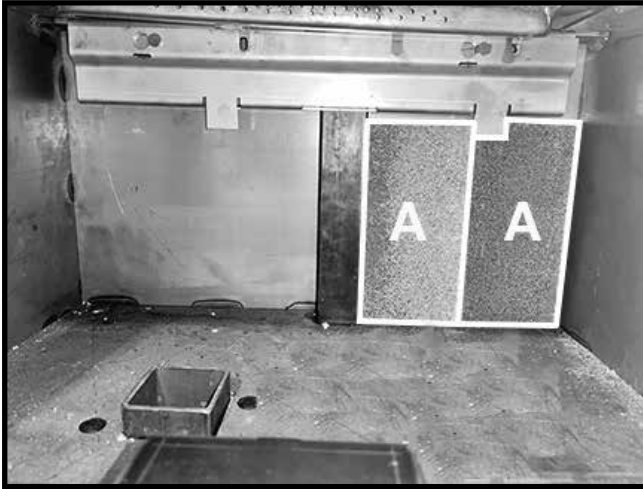

Figure 25: Right side rear wall brick A placement.
1. Stand two "A" firebricks vertically behind the right tab located on the brick rail. Slide the firebrick toward the center of the rear wall (Figure 25).